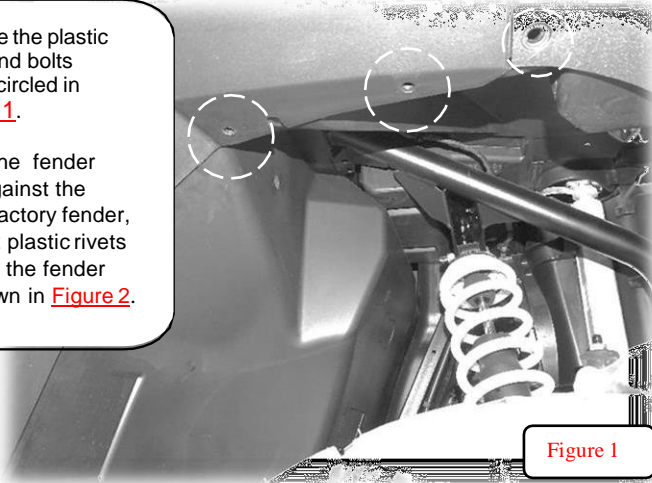

Figure 1
- 1) Remove the plastic rivets and bolts shown circled in Figure 1.